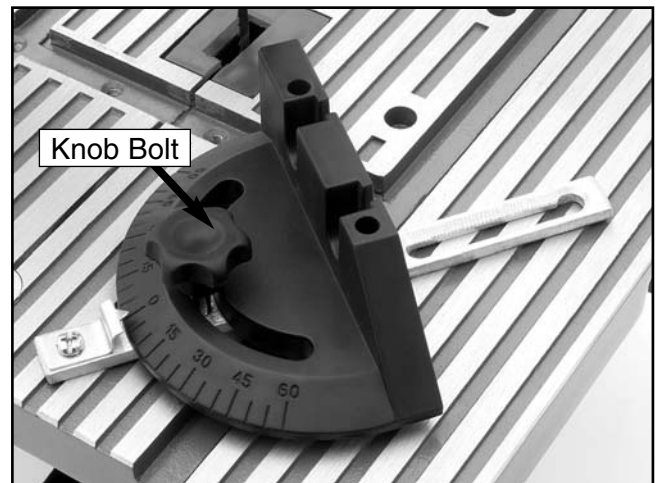

Figure 14. Assembled miter gauge.
- Secure the miter body to the miter bar with the M6-1.0 x 15 knob bolt, (**Figure 14**).